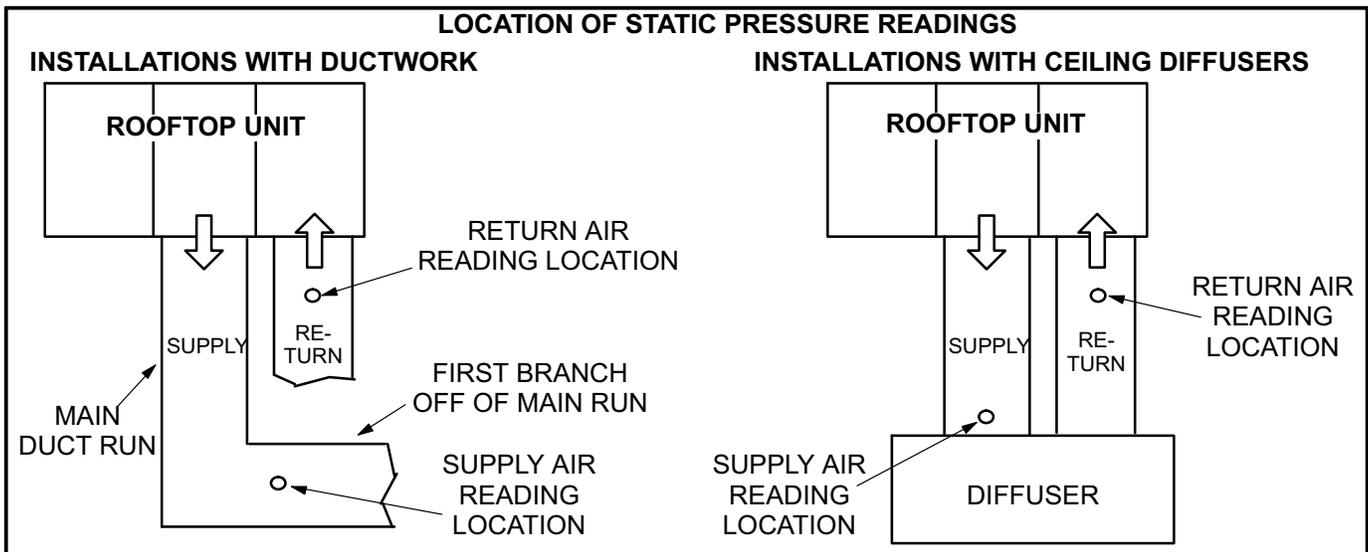

FIGURE 7
- 3- With all access panels in place, measure static pressure external to unit (from supply to return). Blower performance data is based on static pressure readings taken in locations shown in figure 7.